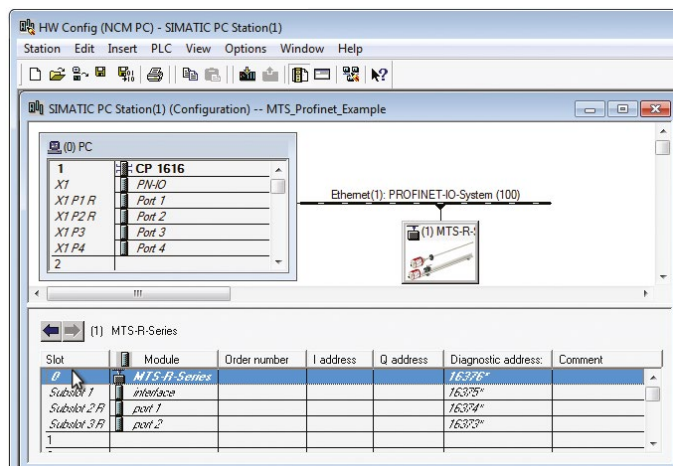

Fig. 64: HW Config-Window (Source: Siemens)
4. Double-click Slot "0" to open a configuration dialog box (Fig. 64).